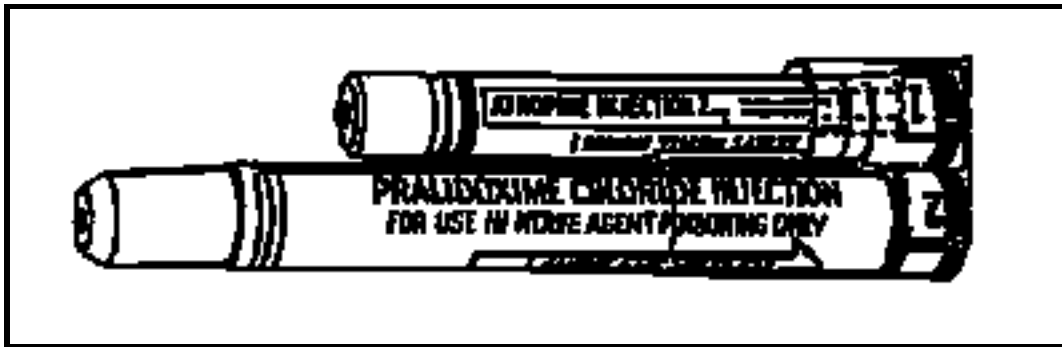

Figure D-3. Nerve agent autoinjector kit.
Step 2. Remove a Mark I nerve agent autoinjector kit (NAAK) from your protective mask carrier (see Figure D-3).